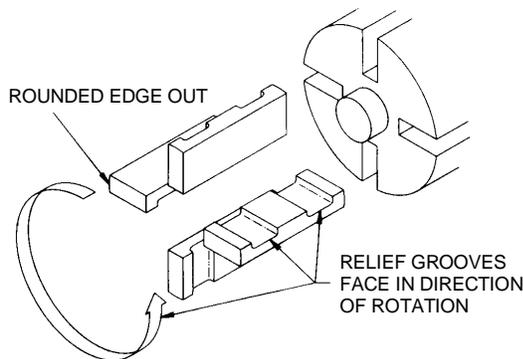

Figure 5 – Vane Replacement
3. Turn the shaft by hand until a vane (14) comes to the top (12 o'clock) position of the rotor. Remove the vane.
4. Install a new vane (14), ensuring that the rounded edge is UP, and the relief grooves are facing towards the direction of rotation. See Figure 5.
3. Without installing the head O-ring (72) or mechanical seal components, temporarily attach the outboard head (20) and bearing (24) to the casing (12). Install and hand-tighten two head capscrews (21), 180 degrees apart. This head will be used to hold and align the rotor and shaft (13) while the inboard side of the pump is assembled. **NOTE: It is a good practice to attach pump heads to the same ends they were removed from.**
4. Before installing the rotor & shaft assembly (13), the direction of pump rotation must be determined as follows: If the pump is to be **right-hand** with **clockwise** rotation, the intake port and the relief valve must be on the **right** with the drive end of the shaft pointing towards the observer. If the pump is to be **left-hand** with **counterclockwise** rotation, the intake port and the relief valve must be on the **left** with the drive end of the shaft pointing towards the observer.
5. Remove the vanes (14) and push rods (77) (if equipped) from the rotor and shaft assembly (13). Inspect for wear and damage, and replace as follows:
- a. Insert the vanes (14) into the bottom rotor slots with the relief grooves facing in the direction of pump rotation, and with the rounded edges outward. See Figure 5.